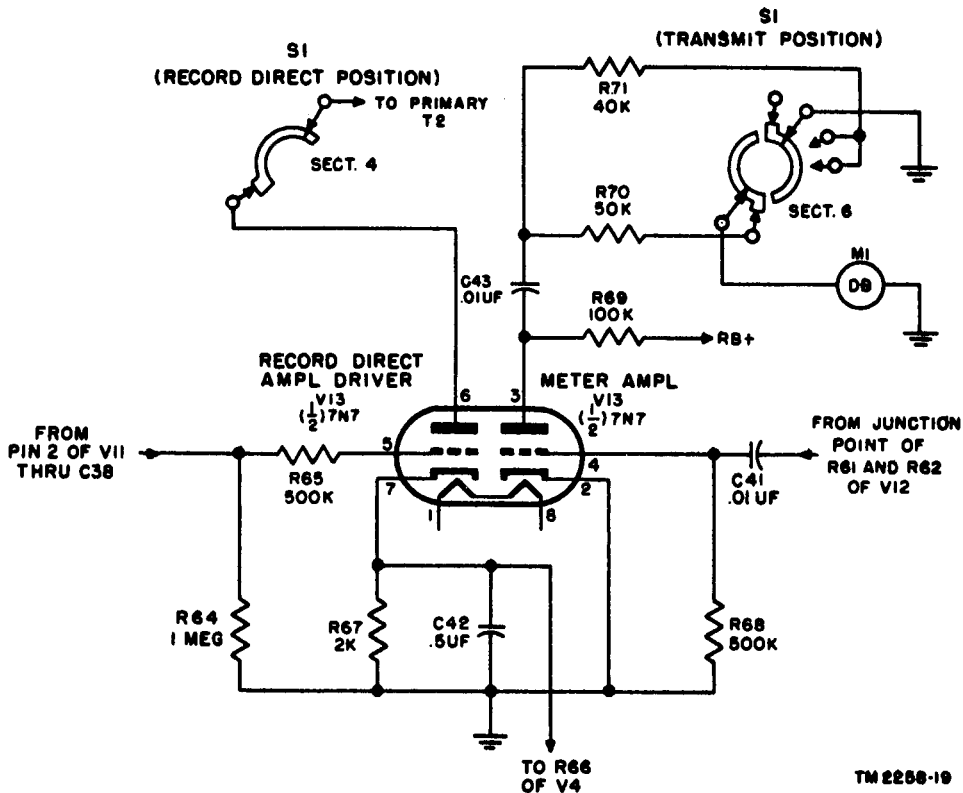

Figure 55. Record direct amplifier driver and meter amplifier, Facsimile Transceivers TT-1/TXC-1 and TT-1A/TXC-1.
- (1) *Transmitting.* With the selector switch set in the TRANSMIT or SET RANGE position, the control grid of V12 receives the signal coupled from the plate of tube V11 through C39 and developed across R59, the transmitting half of the dual GAIN control. The slider on R59 selects the portion of voltage across the resistor which is to be applied to the grid of V12. Resistors R61 and R62 in series constitute a voltage divider across the input circuit of V12. Half of the V12 grid voltage is applied from the junction of R61 and R62 through capacitor C41 to the grid of the meter amplifier half of V13 (figs. 55 and 56). Tube V12 is biased by cathode current flowing through cathode resistor R63, which is bypassed at audio frequencies by C40. Transformer T2 is the output transformer for stage V12. Plate current flows through the primary from the regulated +250-volt supply. Signal variations at the plate of V12 cause signal voltages to be induced in the two secondaries of T2. In the TRANSMIT position of the selector switch only, secondary No. 1 is connected to the LINE JACK, one side of which is grounded through section IVL of the selector switch, and secondary No. 2 is
d. *Signal Meter Amplifier (V13)* (figs. 55 and 56). This stage uses dual-triode tube 7N7. Section 5-6-7 serves as the Class C RECORD DIRECT amplifier-driver stage which drives stage V14. Pins 2, 3, and 4 serve as the meter amplifier, providing a vacuum-tube voltmeter circuit for measuring input and output signal levels in decibels.
- (1) *Record direct amplifier driver.* Although the grid (pin 5) of the first section of tube V13 is fed a modulated 1,800-cycle signal at all times, the stage is operative only when the selector switch is in the RECORD DIRECT position. The stage is operated as a threshold limiter; that is, it is biased considerably beyond cutoff and prevents an output signal until the input signal reaches a predetermined level. This is advantageous in controlling the signal used on direct recording. The grid (pin 5) is fed from the plate of